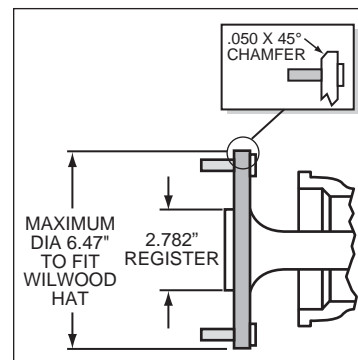

Figure 3. Axle Flange Maximum Dimension
- Maximum axle flange diameter must be no larger than 6.47" w/.050" x 45° chamfer (see Figure 3).